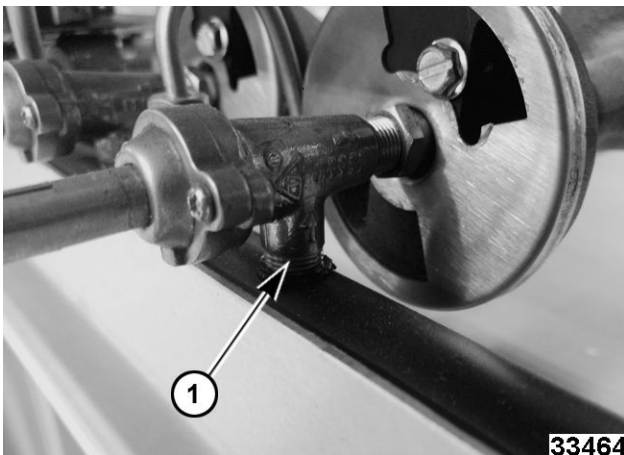

Fig. 23
5. Remove top burner control valve (1, Fig. 23) from manifold.